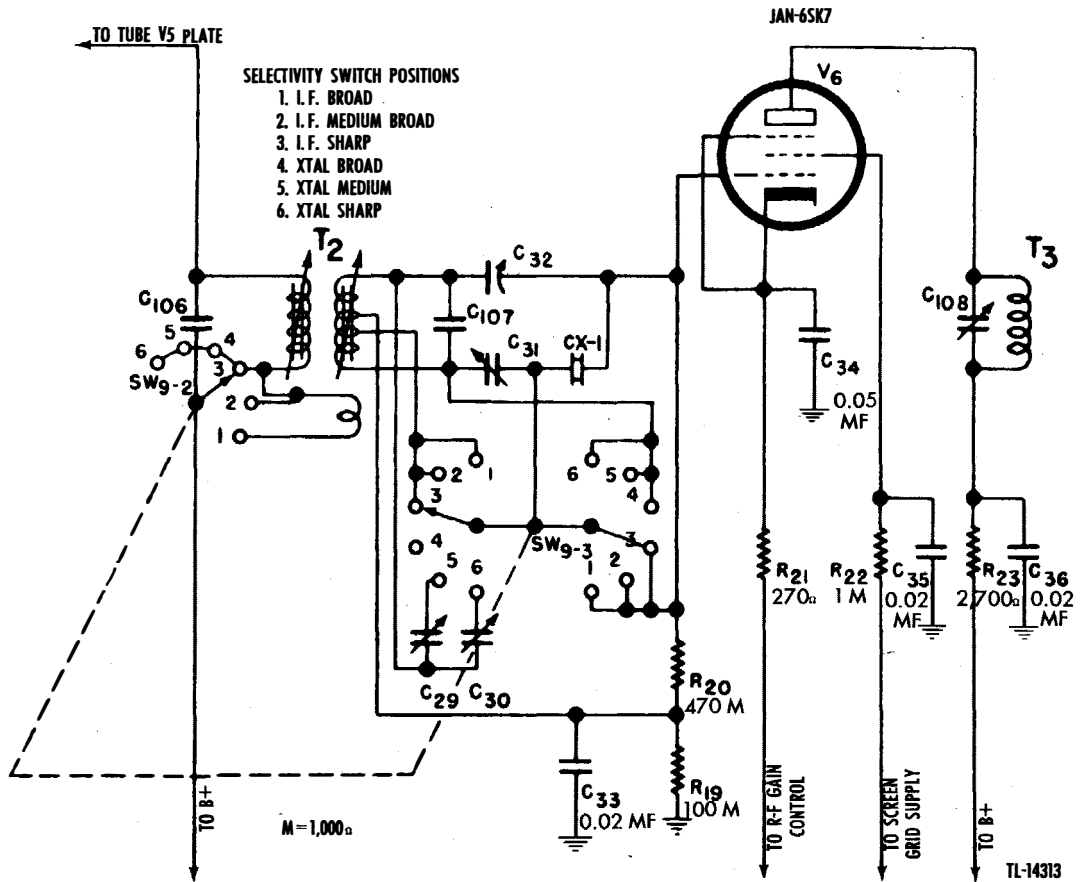

Figure 13. Crystal filter and second i-f amplifier, schematic.
b. Fixed capacitors C104 and C105 plus the permeability tuned coils resonate the primary and secondary of T1 to the intermediate frequency. The bandwidth of transformers T1 and T2 is broadened by inclusion in the circuit of additional inductance controlled by switches SW9-1, and SW9-2 (fig. 12) which works in conjunction with SW9-3 (fig. 13).
- (1) BROAD I.F. (for high-fidelity reception).
- (2) MED. I.F. (more selectivity, less highs).
- (3) SHARP I.F. (reduces interference, far less highs).
e. In positions 1, 2, and 3 of switch SW9-3 (fig. 13) the crystal
f. In position 6, or XTAL SHARP, the trimmer C30 (fig. 13) has been adjusted for the sharpest crystal action. Under this condition, the secondary is slightly detuned from the resonant crystal frequency sufficiently so that its resonance curve is not greatly affected by the crystal but still coupled tightly enough so that it can transfer energy to the crystal circuit. As this point was reached, it was indicated by a rise in the output. Two such points of increased output will normally occur—one for each adjustment of the secondary on either side of the resonant frequency of the crystal.